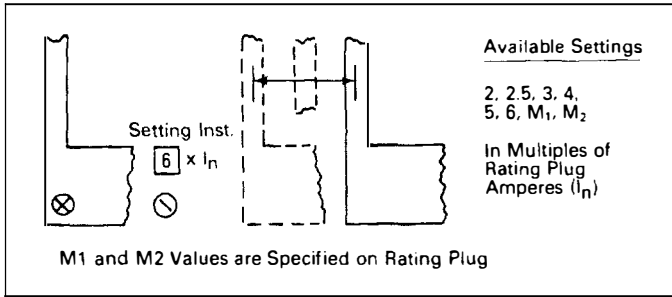

Fig. 4.5 Instantaneous Current Settings
There are eight (8) available Instantaneous Current Settings, as illustrated in Fig. 4.5. Six settings are in the range from 2 to 6 times (I_n) the rating plug value, and the